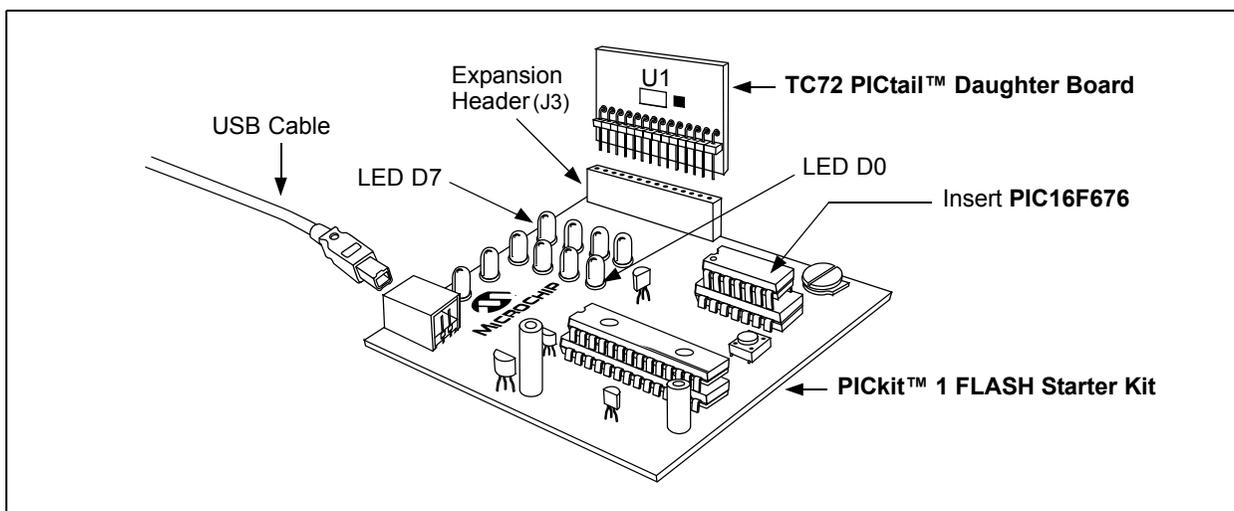
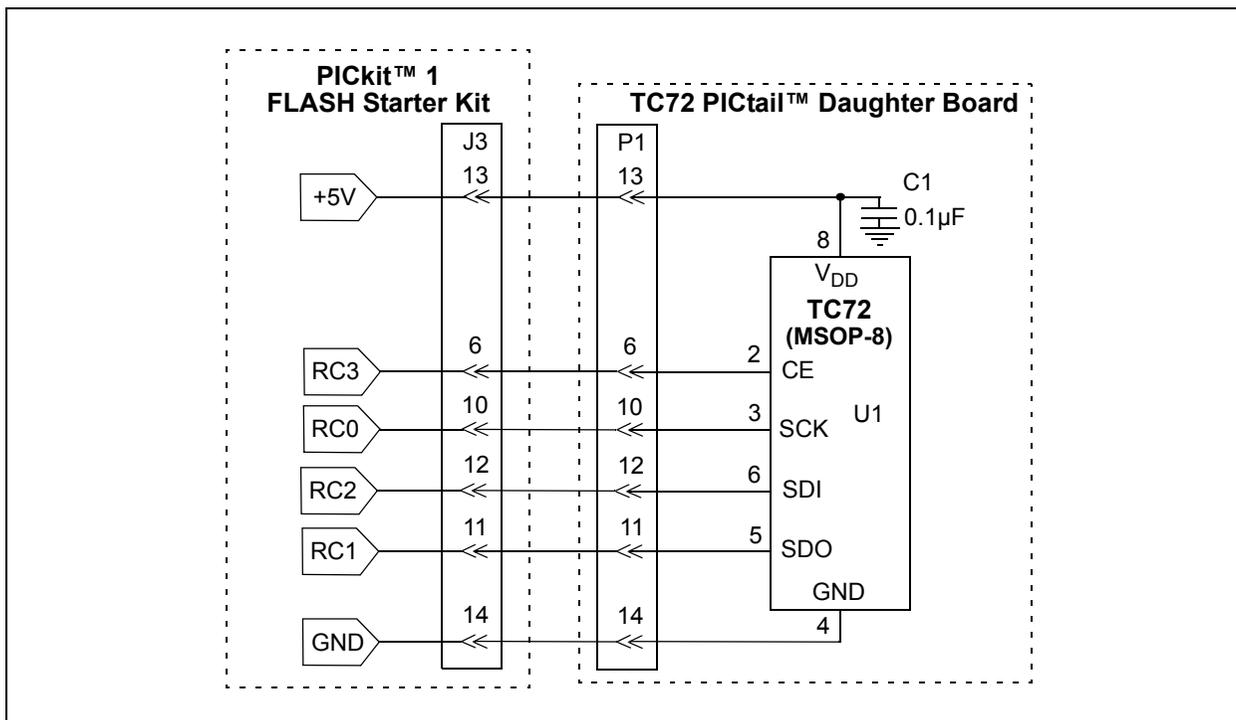

FIGURE 2-2: TC72 PICtail™ Daughter Board and PICkit™ 1 FLASH Starter Kit.
FIGURE 2-3: Simplified TC72 PICtail™ Daughter Board Schematic.
1. Connect the P1 header of the TC72 Thermal Sensor board to the J3 connector on the PICkit 1 Flash Starter Kit board. Refer to Figure 2-2 for proper orientation of the TC72 Digital Temperature Sensor PICtail Demo Board and Figure 2-3 for the simplified board schematic.